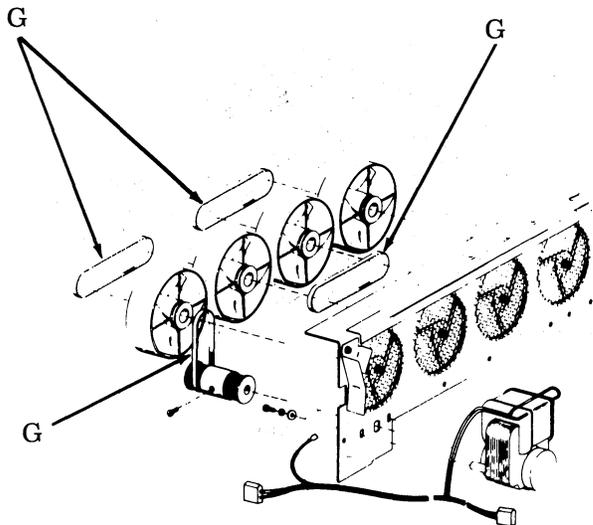

Fig. 4—Lubrication of 401040 Belted-Type Fan Assembly
3.04 Cabinet, pedestals, monitors and OPCONs do not require routine lubrication except for required lubrication of early design belted-type fan assemblies associated with controller logic assemblies. See Fig. 4.